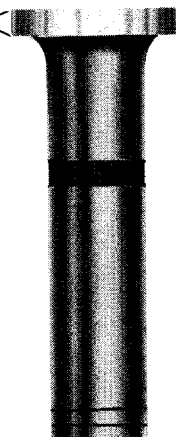

Figure 6-22. Surface to be Cleaned
- a. Clean the edge of the face with medium grade sandpaper and any Ferrox coating (figure 6-22).